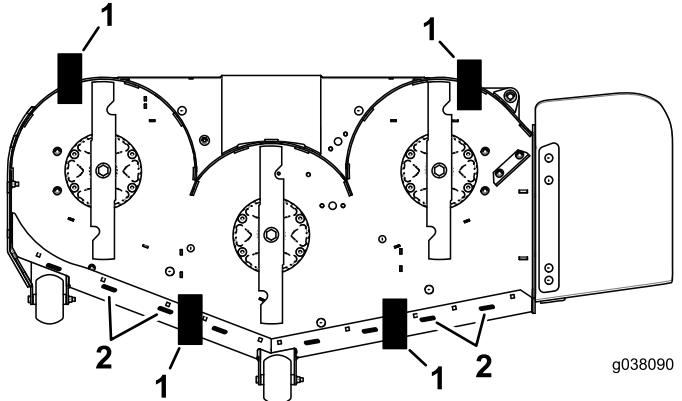

Figure 109
- 11. Place 2 blocks (see Block Height and Rake Table) under the rear edge of the cutting deck skirt; 1 on each side of the cutting deck (Figure 109).